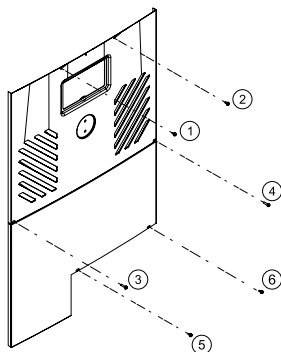

Figure 127. Sheet Metal Screws to Remove Control Panel
2. To access the heater's front control cover panel, use a 1/4" hex head screwdriver to unscrew the six (6) screws. See **Figure 127**.